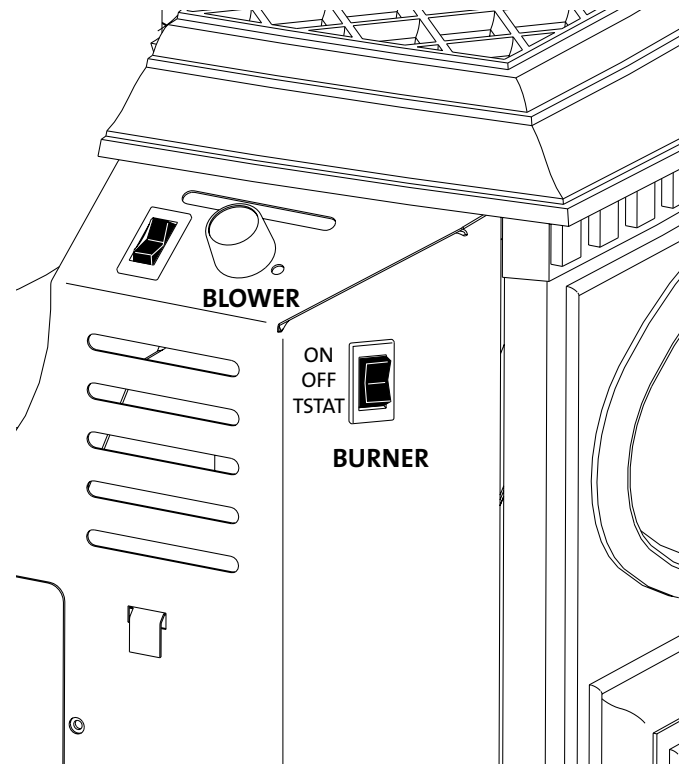

Figure 39. Burner Switch and Optional Blower Controls
1. Once the pilot is lit, burner operation is controlled by the rocker switch located at the left corner of the rear shroud. See fig. 39.